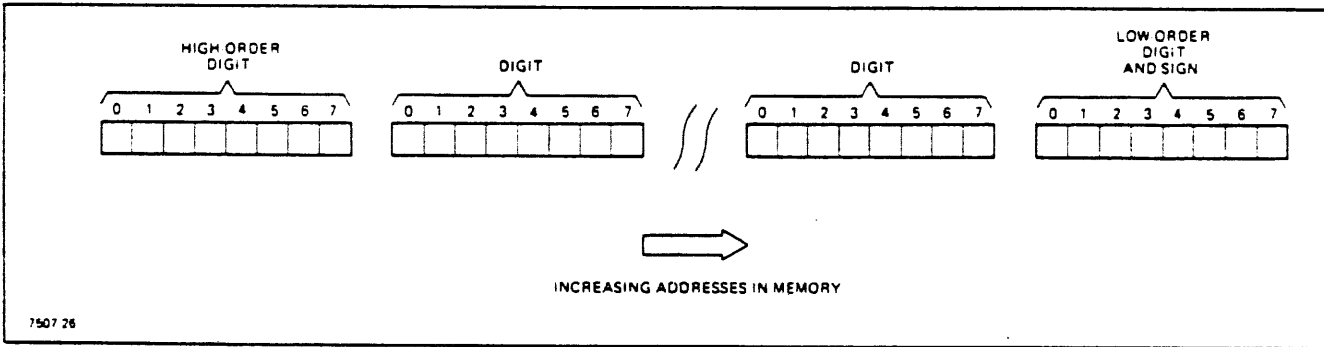

Figure 3-7. External-Decimal Format
Two decimal arithmetic instructions, CVAD and CVDA, make use of external-decimal numbers. Figure 3-7 shows the format of this type of number.
- o Succeeding bytes to the left of the low-order digit (figure 3-7) contain successively higher-order digits of the numbers.